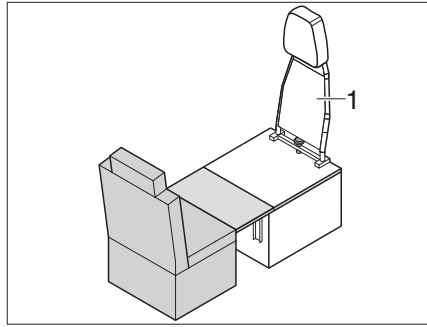

Fig. 215 Driving - sleeping conversion
- Remove the backrest (Fig. 215,1) from the individual seat (see Chapter 7.8.7).